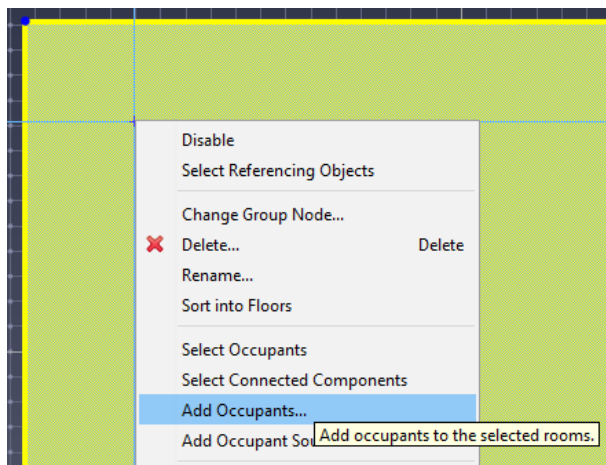
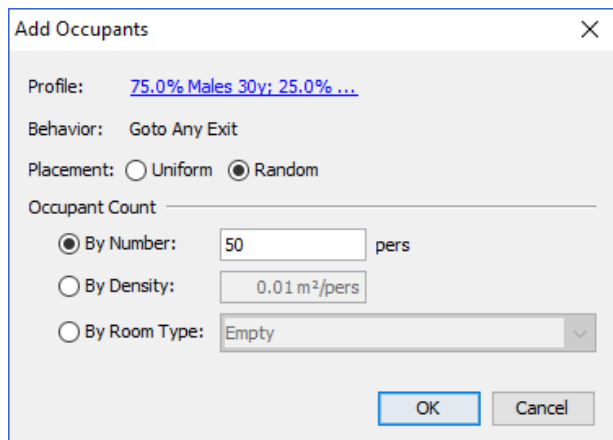

Figure 106. Add occupants in context menu
Figure 107. Add occupants dialog
1. Select the desired rooms and choose **Add Occupants** from the **Model** menu or the right-click menu as shown in Figure 106. This will bring up the Add Occupants dialog (Figure 107). For an explanation of the dialog's options, please see Section 5.4.2.